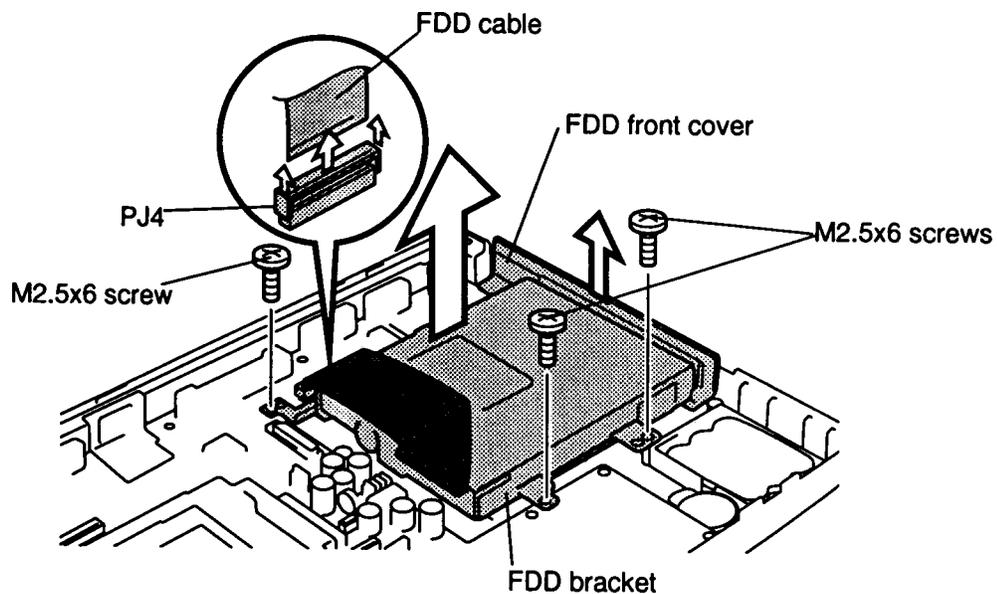

Figure 4-17 Removing the FDD with bracket
To remove the floppy disk drive, follow the steps below and refer to Figures 4-17 and 4-18.
3. Disconnect the **FDD cable** from **PJ4** on the system board, then remove **three M2.5x6 screws** on the **FDD bracket** (Figure 4-17).
4. Remove the **FDD front cover** and lift out the FDD from the system unit (Figure 4-17).
To install the floppy disk drive, follow the steps below and refer to Figures 4-17 and 4-18.
3. Connect the **FDD cable** to **PJ4** on system board (Figure 4-17).
4. Secure the **FDD bracket** with three **M2.5x6 screws** (Figure 4-17).
5. Install the **FDD front cover** on the bottom cover (Figure 4-17).